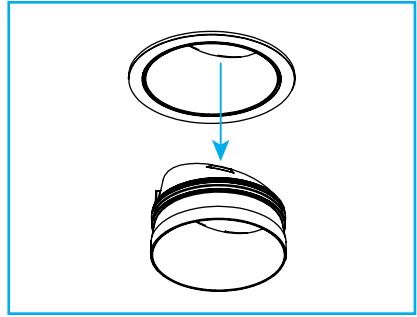

Fig.29
Hot-aim tilt and rotation adjustment is accessed by removing fitting's baffle (Fig.29).
LED engine is accessed by removing fixture's baffle (Fig.29).
Optic adjustment is accessed by removing fitting's baffle (Fig.29).
A. Grasp baffle using soft gloves or with clean soft cloth and remove by pulling down (*Fig.29*).
- A. Grasp baffle using soft gloves or with clean soft cloth and remove by pulling down (*Fig.29*).